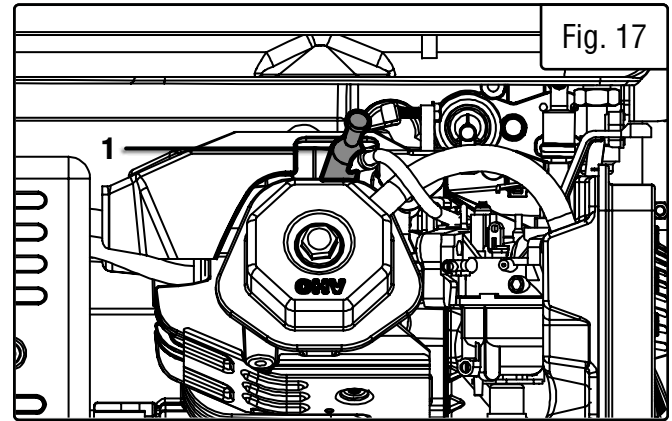

Fig. 17
1. Pull on the spark plug boot to remove it (Fig. 17 - 1). Be careful not to tear insulation or wire.